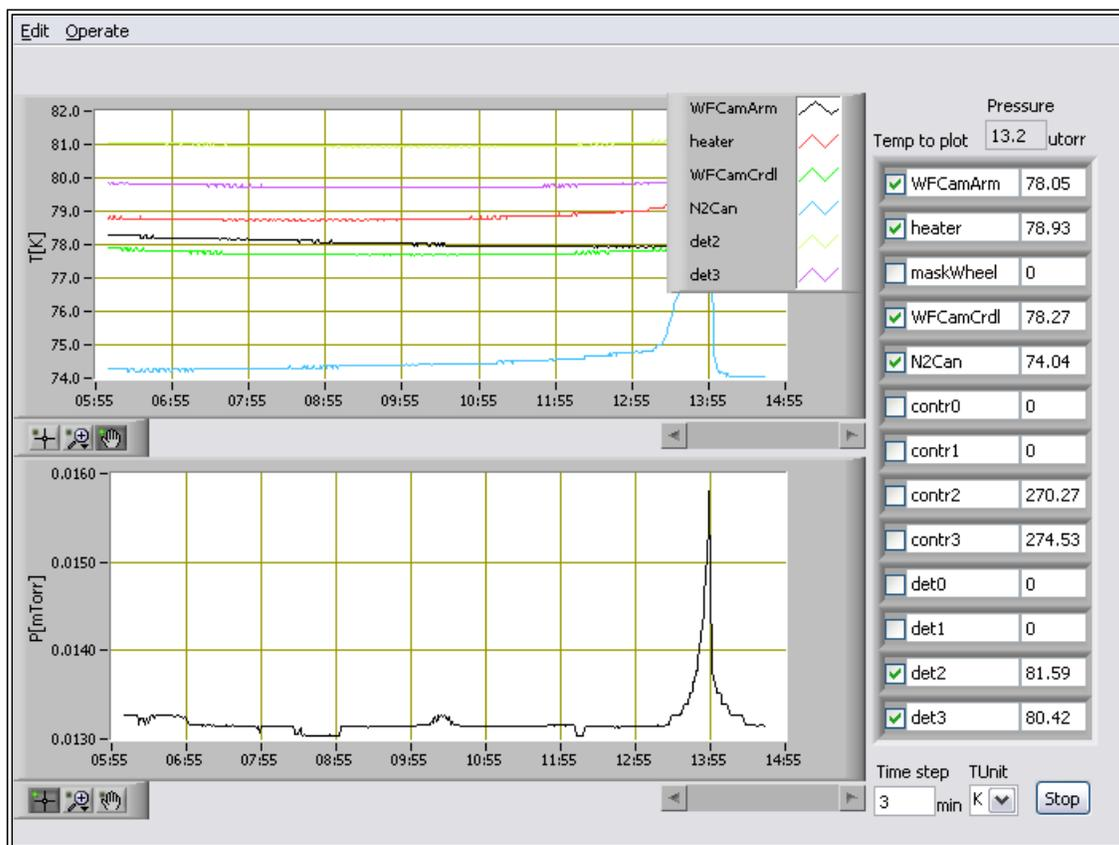

Figure 2: Temperature and pressure panel
- LogTempPressure, <http://soaric3.ctio.noao.edu/LogTempPressure.htm>, monitors the many temperature sensors and the pressure inside the instrument. See Figure 2.